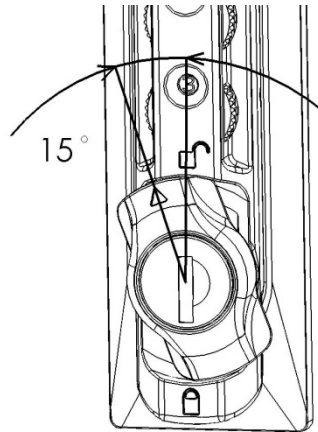

Fig. 2.5.4c Changing the combination
3. Turn the wing knob 180 degrees + 15 degrees counterclockwise (see Fig. 2.5.4c).